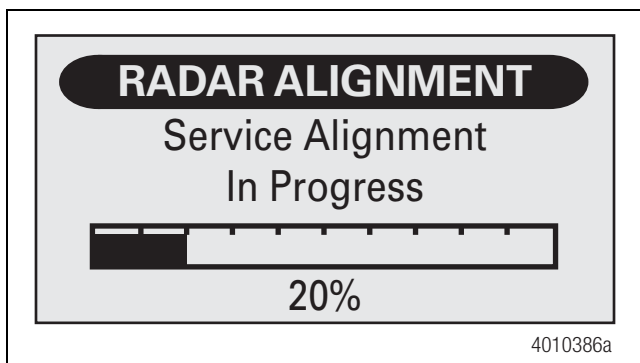

Figure 2.20
2. Use TOOLBOX™ Software to send a diagnostic command to put the OnGuard™ system into the service alignment mode. While in this mode, the OnGuard™ display will show the progress of the alignment process as shown in Figure 2.20.